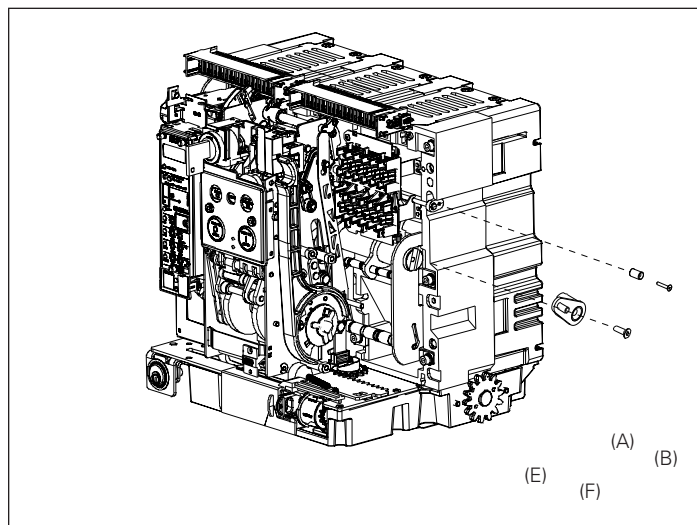

Figure 6. Details for Steps 3 and 4
Install the drive arm (E) to the end of the pole shaft using an M6 x 35 mm flathead screw (F) as shown in **Figure 6**. Apply Loctite Blue 242 to ensure that the screw cannot come loose during operation. The drive arm should be oriented as shown in **Figure 6**. Torque to 7,3–9,6 N·m (65–85 in-lb).
Install the trip pin (A) to the trip bar using an M3 x 16 mm flathead screw (B) as shown in **Figure 6**. Apply Loctite Blue 242 to ensure that the screw cannot come loose during operation. Use a wrench to hold the trip lever during installation. Torque to 0,3–0,6 N·m (3–5 in-lb).